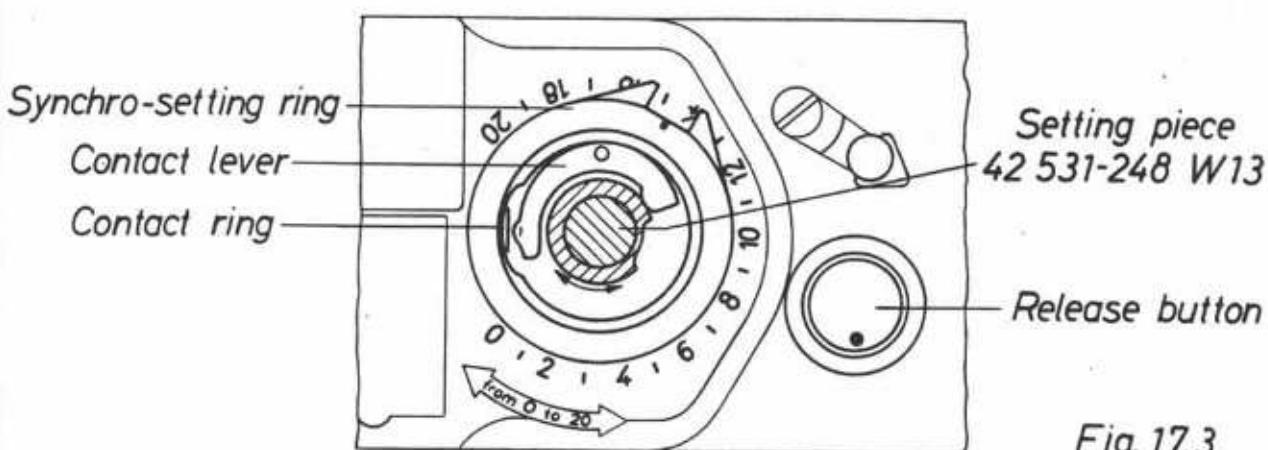

Fig. 17.3
- 1.15 Set lever to "L", tension the shutter of the Leica, and engage the release arm at the $1/1000$ second setting. Mount the setting piece 42 531-248 W13 on the release arm, and turn it without allowing the contact lever to enter the cut-out of the setting piece. At the same time also turn the synchro-setting ring from 0 to 20, and check that the contact lever and contact ring do not make contact anywhere (see fig. 17.3).